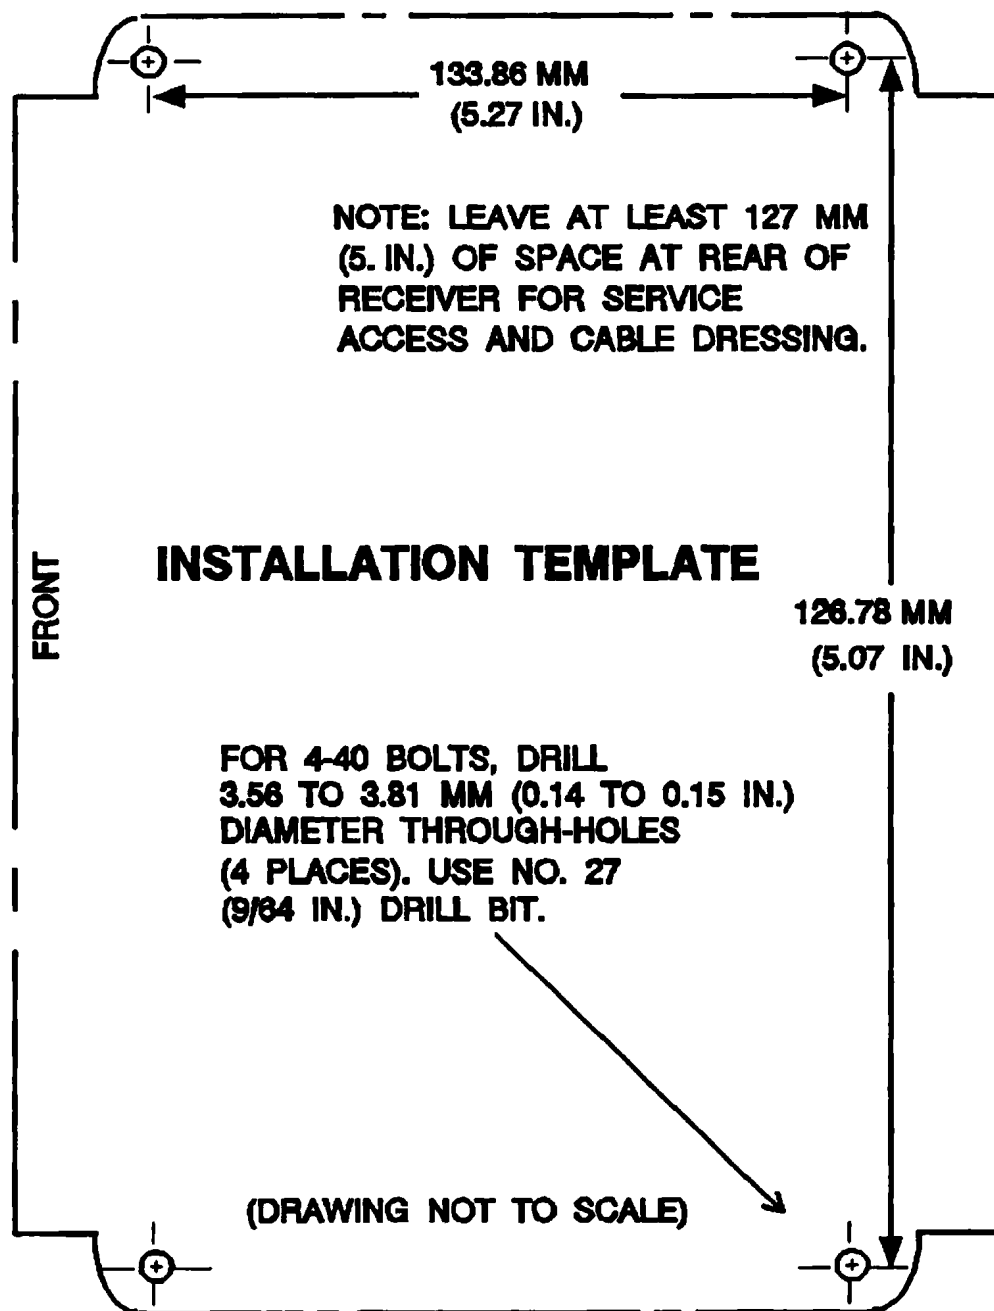

Figure 7. Installation Template
2. Install the unit using the template provided. Refer to Figure 7 and Table 1.
For easy and flexible mounting, your receiver comes with two platforms. Inside each platform, two recessed and threaded busings serve as the female receptacle for the case housing screws. Four holes at the ends of the platforms are used to attach the receiver in any orientation to the chosen mounting surface. Your installation kit includes a template (refer to Figure 7). Use the template to determine the location of the mounting holes.